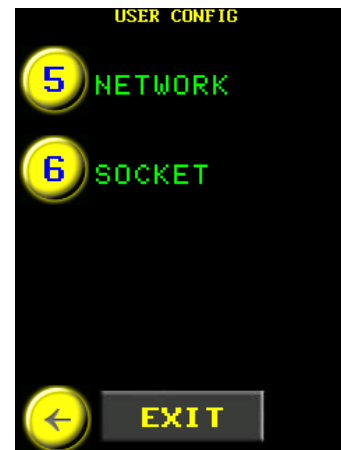

Figure 5.23-2: User Config Menu
3. Select **"Network"** from the User Configuration menu (Figure 5.23-2).